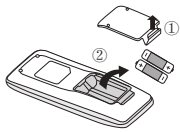

Fig.1
1. Lift the cover along the direction of arrow (as shown in Fig 1①).
2. Take out the original batteries (as shown in Fig 1②).